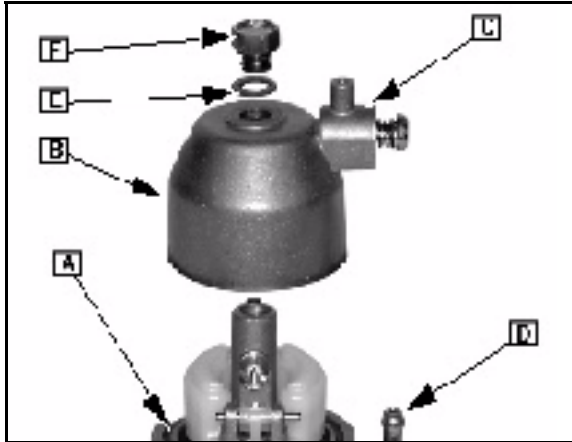

Fig. 122
13. Place float bowl (B) on carburetor with drain boss parallel (C) to fuel inlet fitting ([D] Fig. 122).
14. Install new float bowl washer (E). Torque bowl screw ([F] Fig. 122) to values listed.